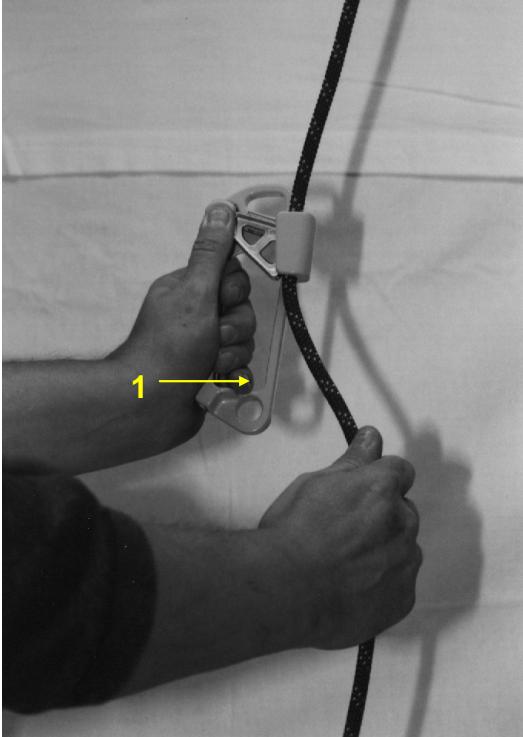

Abbildung 24
1. Hold the rope stop unit with your left hand on the handle and with the right hand on the idle rope a little below the rope stop unit (Abb. 24).
2. Pull the locking lever (1) back with the thumb and let the idle rope slide under control Ihre rechte Hand gleiten (Abb. 24).